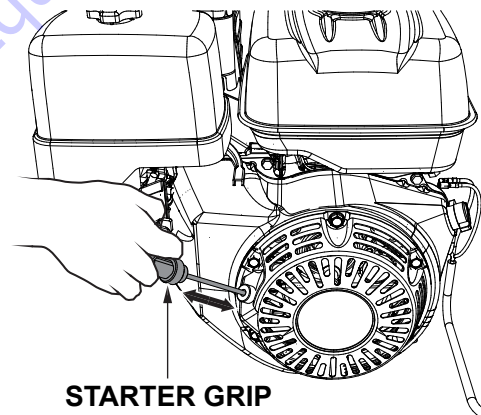

Figure 32. Starter Grip
- Slowly pull the starter grip (Figure 32) until resistance is felt, then pull briskly and smoothly to start the engine. Gently return the starter grip to its original position.